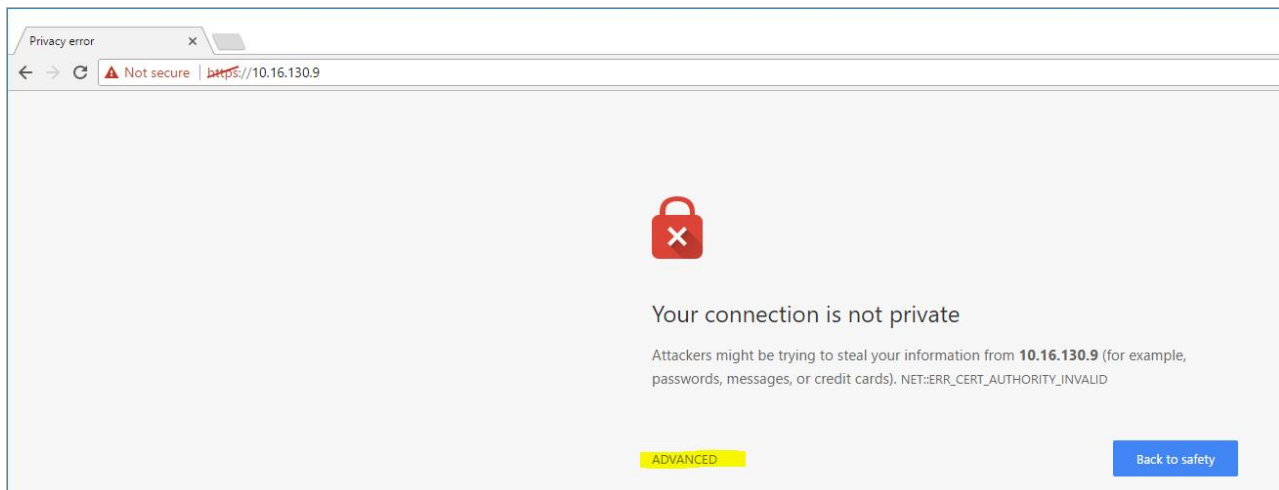

Figure 5: Web interface – first screen
4. Click **Advanced** (Figure 5).